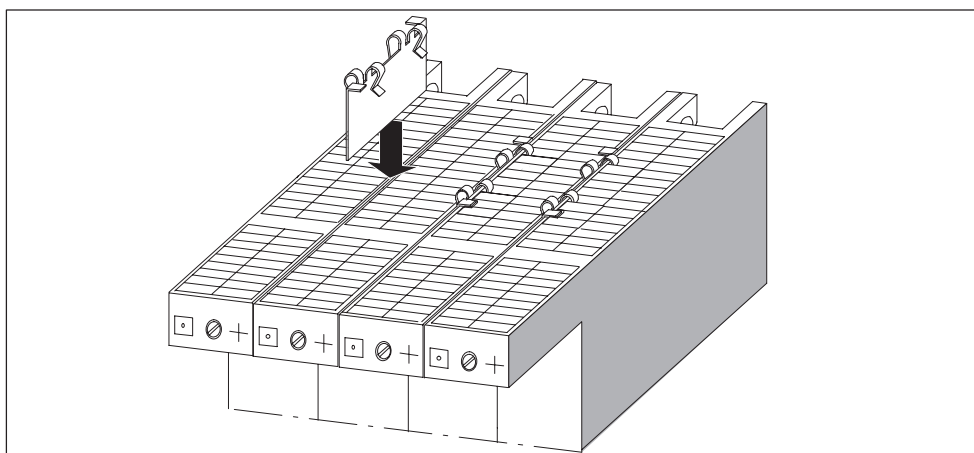

Figure 2-8 Fixing the Modules Together with the Connecting Clips
1. Push the connecting clip from the top between the two modules to be clipped together as shown in Figure 2-8 so that the bent end pieces of the clip touch the module housing cover.
3. Then push the two rectangularly bent end pieces of the connecting clip downwards to clip them together. Figure 2-8 shows the connecting clips after clipping together.